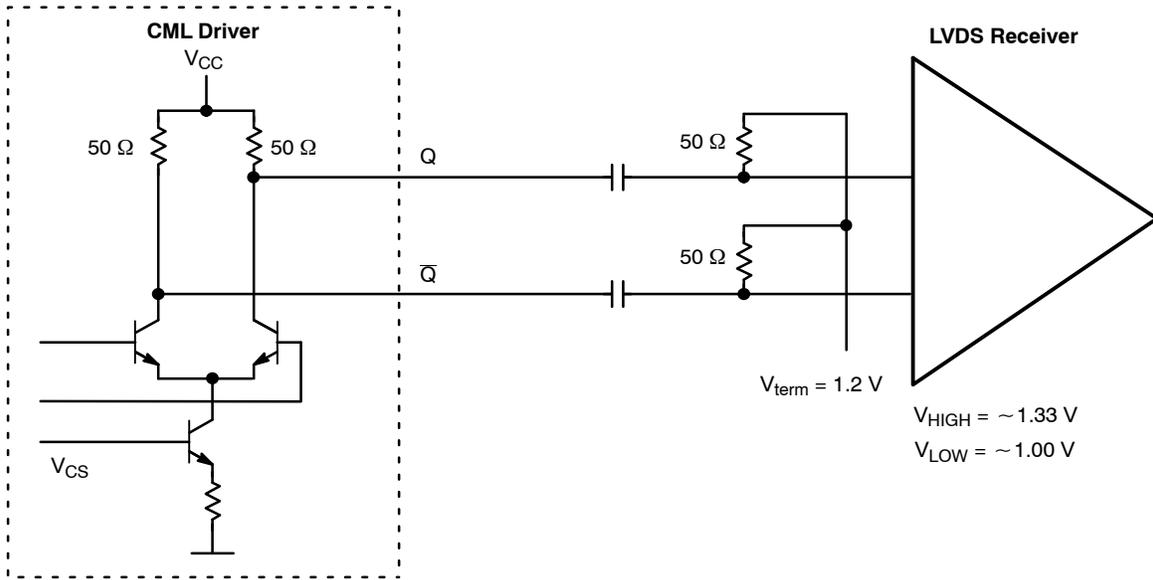

Figure 14. CML to LVDS (V_{term} = 1.2 V)
A CML Driver interconnect to an LVDS (LVDS, BLVDS, M-LVDS, GLVDS, or LVDM) compliant receiver requires a cap coupled (AC) interface. Typically, a 50 Ω (R_T) per line impedance matching termination to V_{term} is used as shown in Figure 14, and will produce a V_{HIGH} of about 1.33 V, a V_{LOW} of 1.0 V, with an amplitude of 330 mVpp (each line measured single-ended). The V_{CM} is set to 1.2 V by the V_{term} reference.